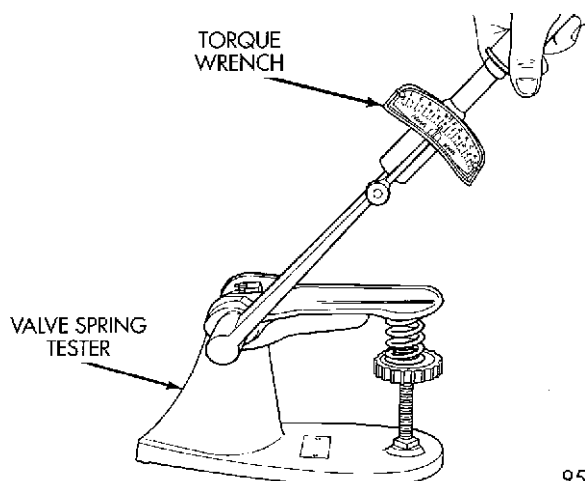

Fig. 94 Testing a Valve Spring
(1) Whenever valves have been removed for inspection, reconditioning or replacement, valve springs should be tested Special Tool C-647. As an example, the compression length of the spring to be tested is 33.34 mm (1-5/16 inches). Turn tool table until surface is in line with the 33.34 mm (1-5/16 inch) mark on the threaded stud and the zero mark on the front. Place spring over stud on the table and lift compressing lever to set tone device (Fig. 94). Pull on torque wrench until ping is heard. Take reading on torque wrench at this instant. Multiply this reading by two. This will give the spring load at test length. Fractional measurements are indicated on the table for finer adjustments. Discard the springs that do not meet specifications. The Following specifications apply to both intake and exhaust valve springs.